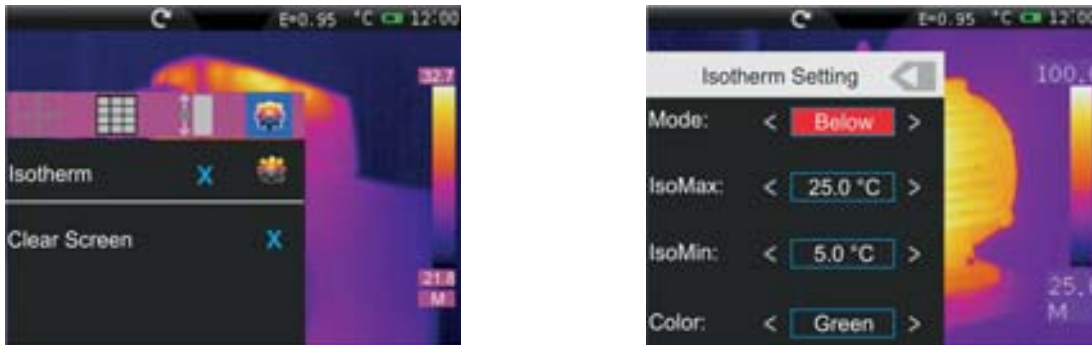

Fig. 59: Setting the Isotherm tool
In the Image menu, touch the icon “” to select the Isotherm function and to activate a screen clearing function. The following options are available (see Fig. 59)
2. Touch the icon “” to define the characteristics of the Isotherm line. The screen Fig. 59 is shown on the display. The meaning of the items is the following: